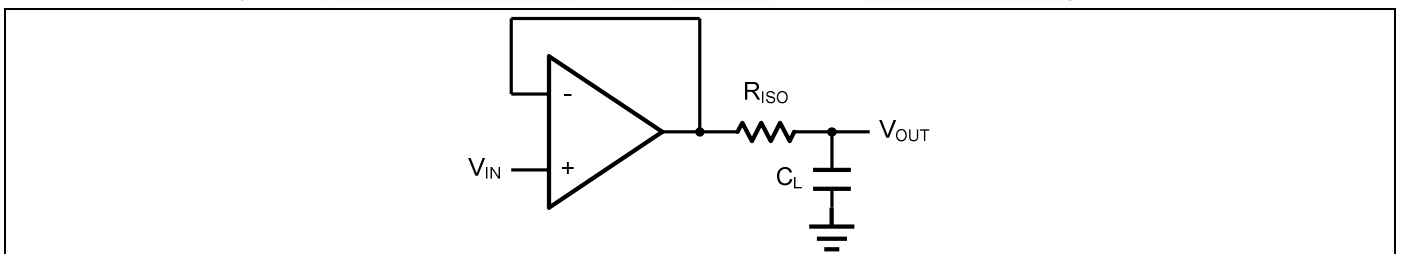
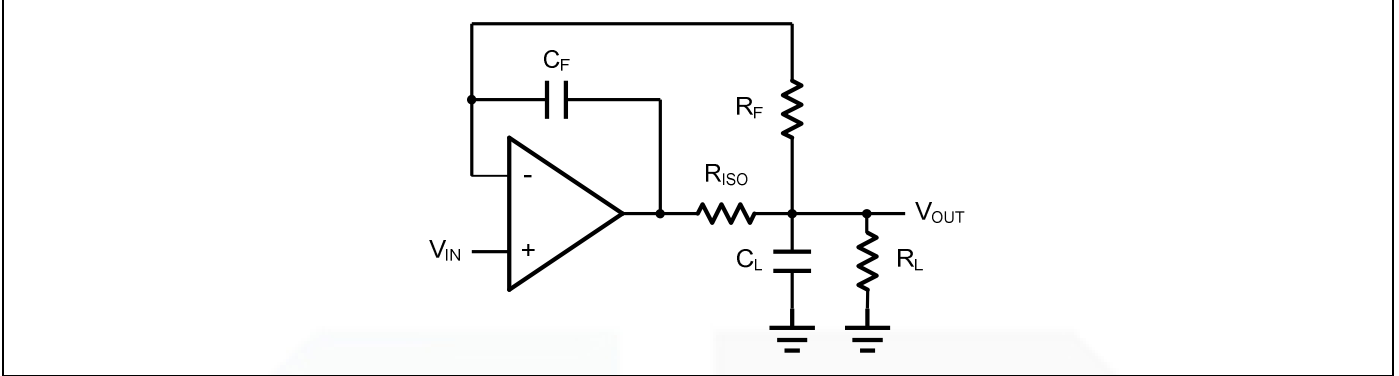

Figure 2. Indirectly Driving a Capacitive Load Using Isolation Resistor
Figure 3. Indirectly Driving a Capacitive Load with DC Accuracy
The GS855x family is optimized for bandwidth and speed, not for driving capacitive loads. Output capacitance will create a pole in the amplifier's feedback path, leading to excessive peaking and potential oscillation. If dealing with load capacitance is a requirement of the application, the two strategies to consider are (1) using a small resistor in series with the amplifier's output and the load capacitance and (2) reducing the bandwidth of the amplifier's feedback loop by increasing the overall noise gain. Figure 2. shows a unity gain follower using the series resistor strategy. The resistor isolates the output from the capacitance and, more importantly, creates a zero in the feedback path that compensates for the pole created by the output capacitance.
The circuit in Figure 3 is an improvement to the one in Figure 2.  $R_F$  provides the DC accuracy by feed-forward the  $V_{IN}$  to  $R_L$ .  $C_F$